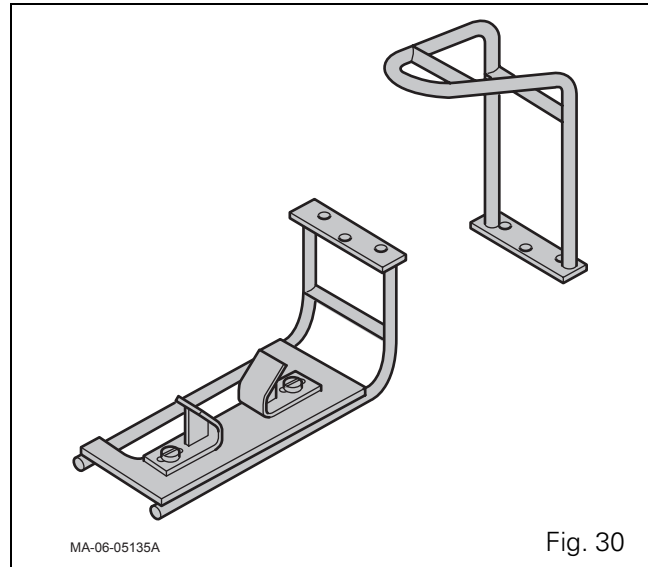

Fig. 30
- 3378116M1: Sling for removing - refitting the differential unit assembly (Fig. 30)